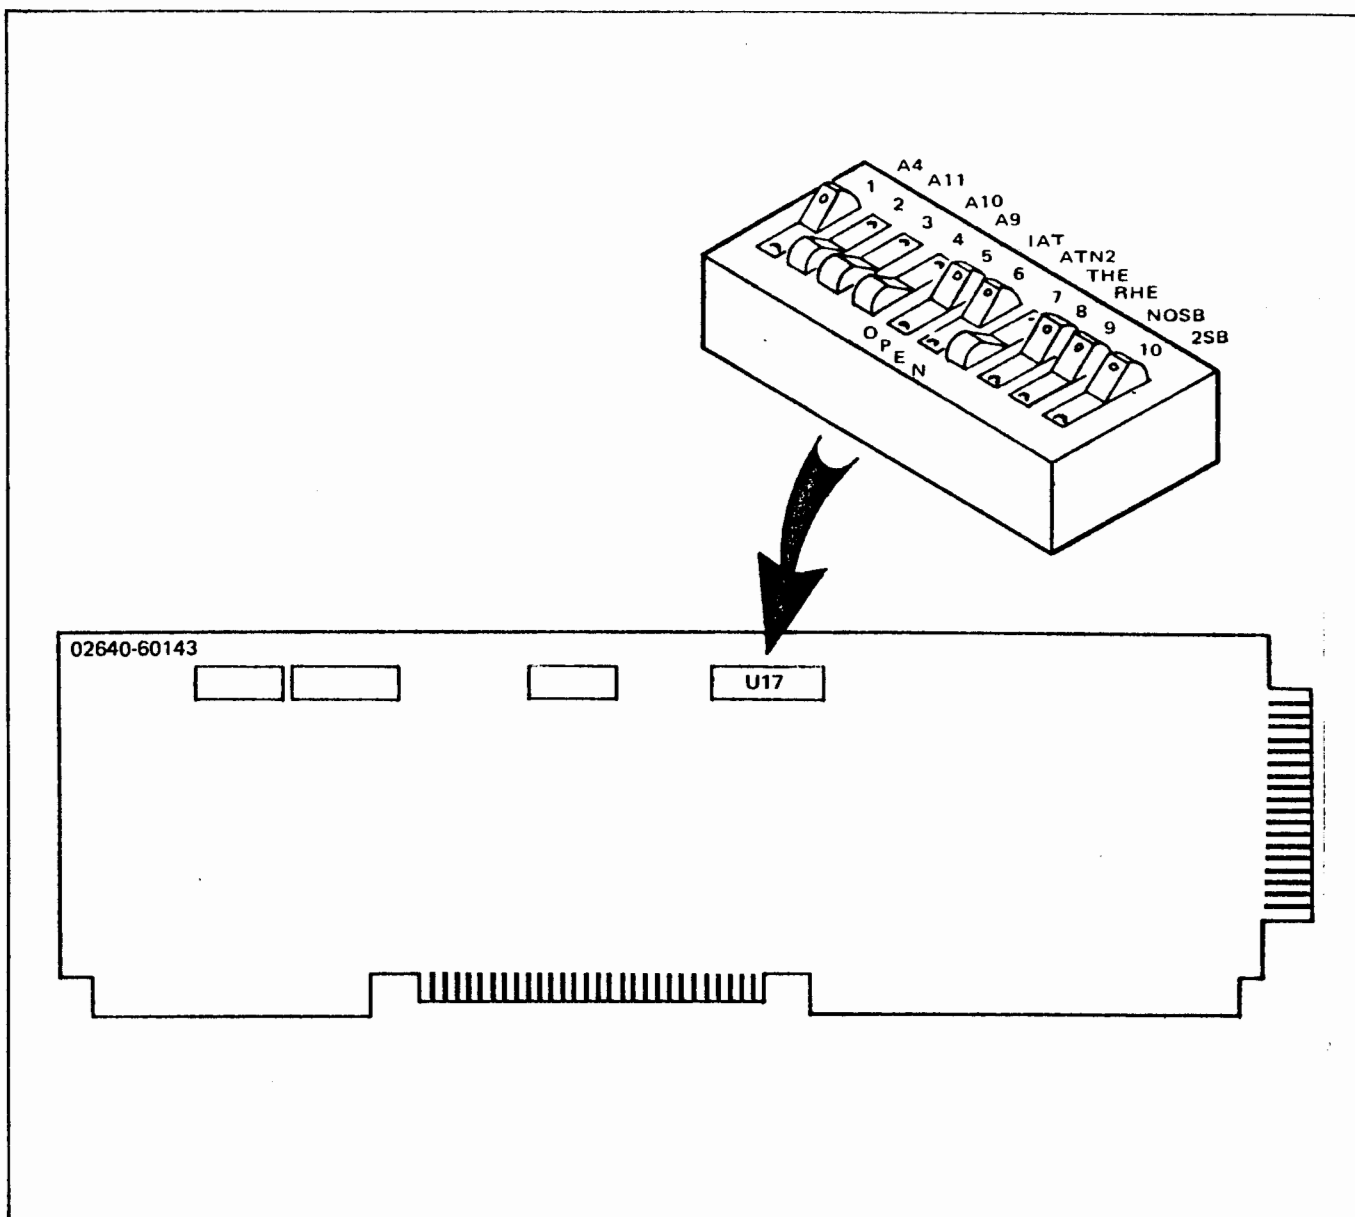

Figure 1-3. HP 13260B Extended Asynchronous Interface PCA Switch Settings.
When adding 2645 or 2648 Terminals (non multipoint terminals) miniature rocker switches on the 13260B Extended Asynchronous Interface PCA, part no. 02640-60143 must be set as shown in figure 1-3. You should make your customer aware of this procedure. To set the rocker switches proceed as follows:
- c. Set the U17S1 through U17S10 rocker switches as shown in figure 1-3.